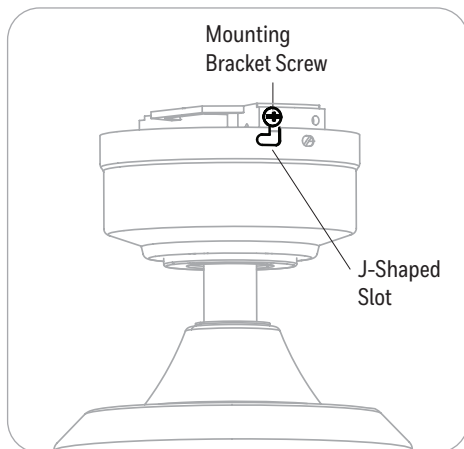

Figure 5.2
2. Raise the canopy, ensure the two mounting bracket screws are aligned with the J-shaped slots in the canopy. Then turn the canopy in a clockwise direction until the mounting bracket screws are completely engaged in the J-slots. (Figure 5.2).